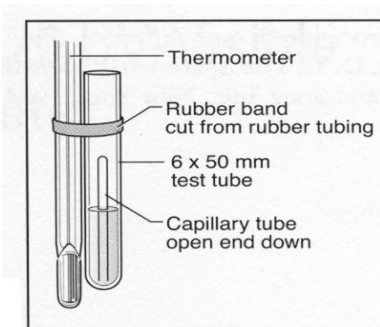

Fig. 1
1. To determine the boiling point of your unknown liquid, pour about 5 ml (retained from your density determination above) into a large test tube. (See Fig. 1).